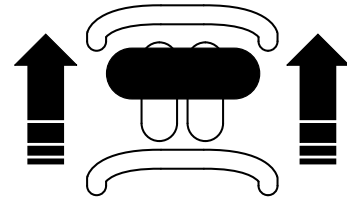

Figure 8
- To move forward, move the traction control forward (Figure 8).